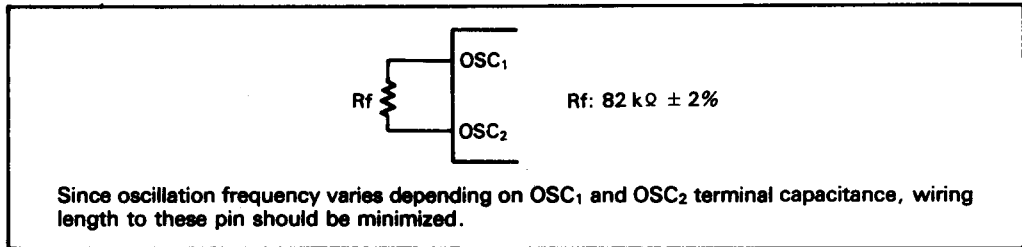

Figure 45 Internal Oscillator, Resistor
- Internal oscillator operation using oscillator resistor R_f (figure 45).